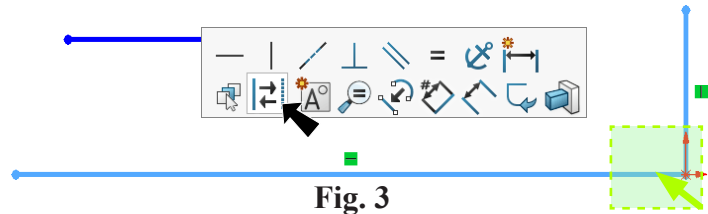

Fig. 3
Step 6. **Drag a selection to left across the centerlines and click Construction Geometry**  on the context toolbar, **Fig. 3**.